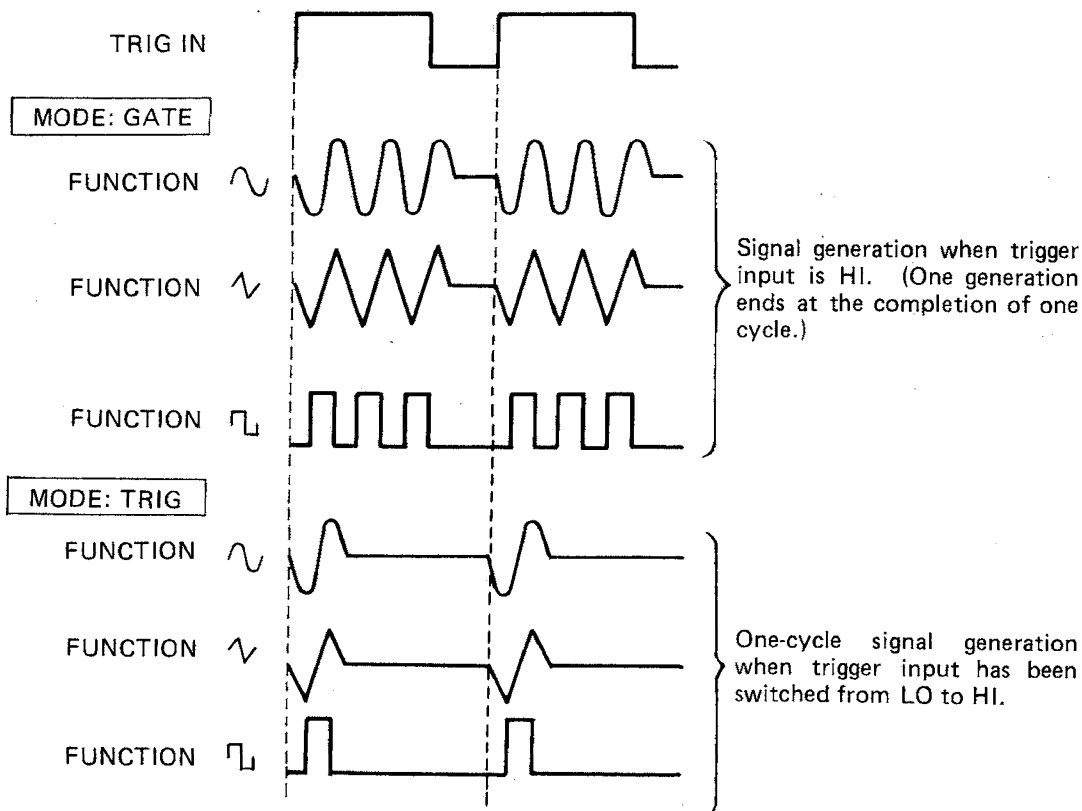

Fig. 5-4
By using these settings and the TTL signal input to TRIG IN (13), one of the waveforms shown in Fig. 5-4 is output to the OUTPUT (11) connector.
Fig. 5-4 shows the output waveforms obtained with the TRIG START LEVEL ⑥ set in the middle. The TRIG START LEVEL is turned to adjust the level to start signal generation.